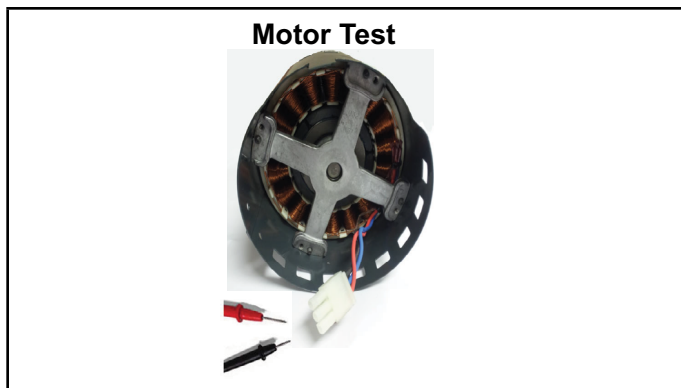

FIGURE 22
Testing the Motor (FIGURE 22)
- 5 - The electrical connectors of the motor should be facing down to form a drip loop (FIGURE 22) This will directs moisture away from the motor and its electric connections on the motor.